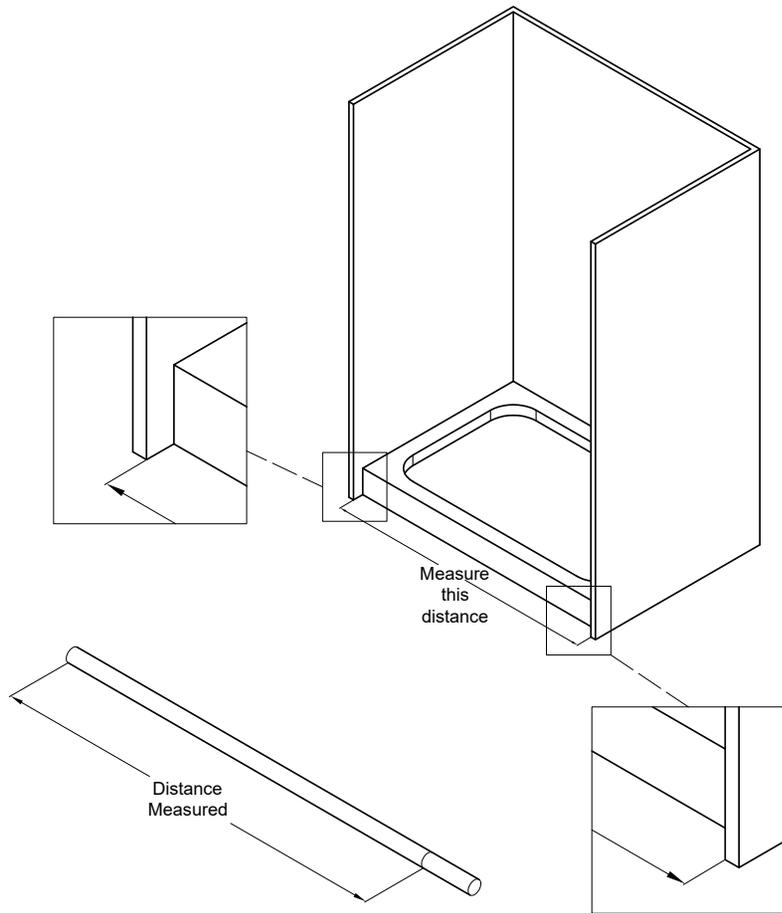

Figure 1
1. Take a precise measurement of the distance between the two completed walls. This distance is labeled as “W” on the diagram. Refer to Figure 1 for details.
2. For your convenience, the Upper Guide Rail (03) has been precut for shower models with a width of 48” or 60”.